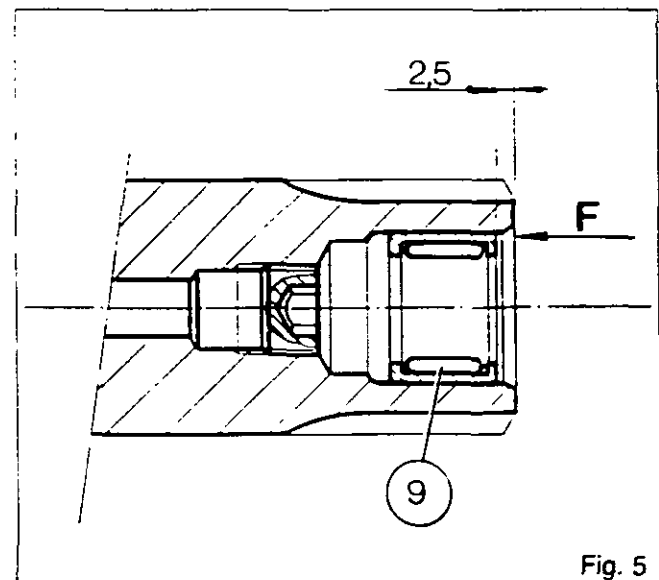

Fig. 5
33. Tighten the plug (8) smeared with Loctite 542.
34. Fit the needle roller bearing (9) 2.5 mm back from the face F (Fig. 5).
35. Fit the bearing cone (19) against the shoulder of the shaft (25).